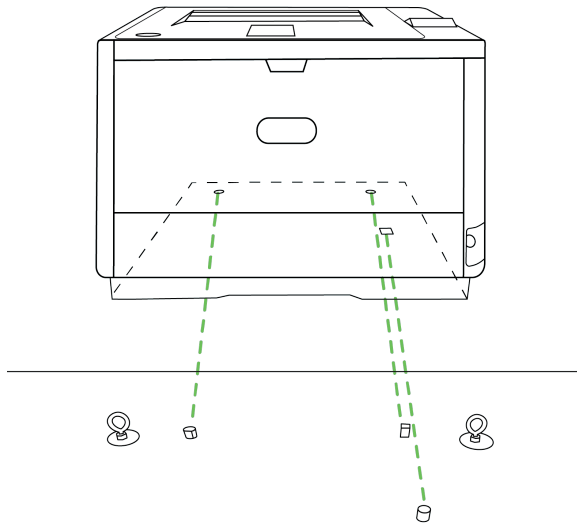

Figure 6-45. The printer aligned on its pegs in its compartment
3. Place the printer into its compartment with the holes on the bottom of the printer aligned on top of the pegs on the floor of its compartment (Figure 6-45).